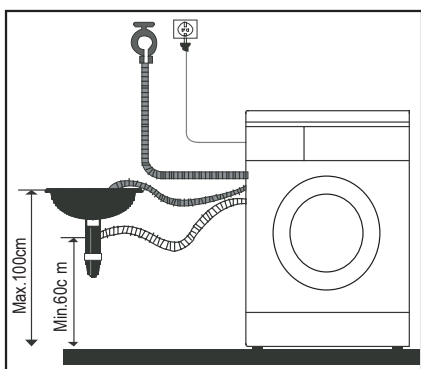

Fig. 7
2. Connect it to the branch drain pipe of the trough. (Fig 7)